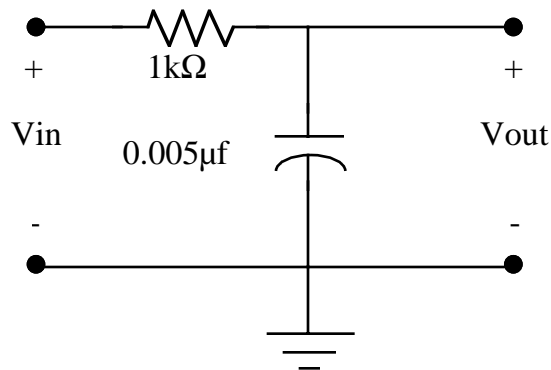

Figure 4. Low pass RC filter.
The first circuit that you will study is the low pass filter shown in Figure 4. As you can see from the figure, this circuit is a complex voltage divider. Its (complex) transfer function is
- Obtain Eqs. (6) and (7) from Eq. (5). Using the values for R and C from Figure 4, calculate the expected characteristic frequency for the low pass filter.